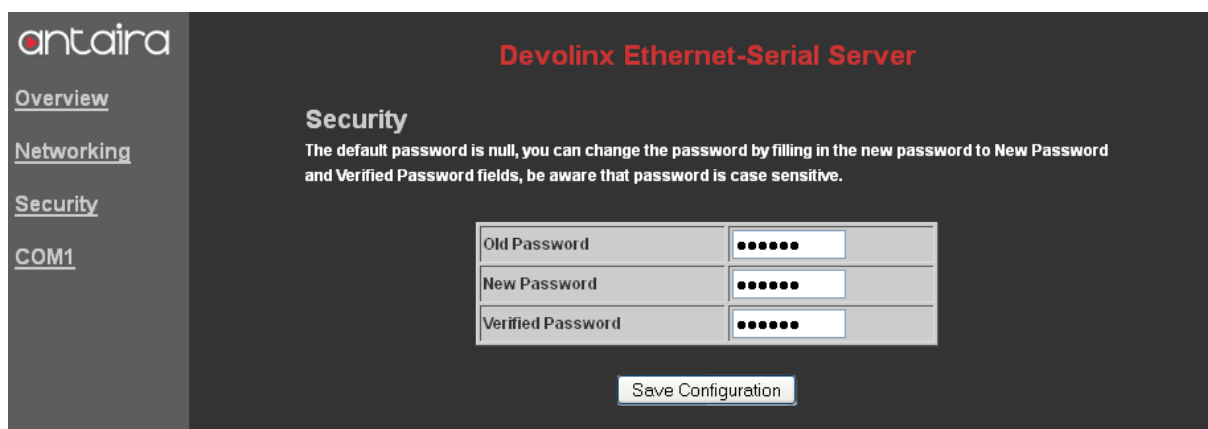

Figure 3.19 Change the password
1. Click on the **"Security"** link and the following screen appears. (Figure 3.19)